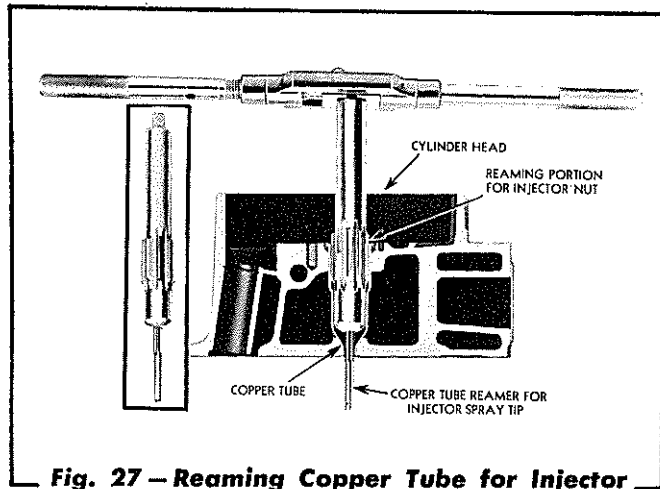
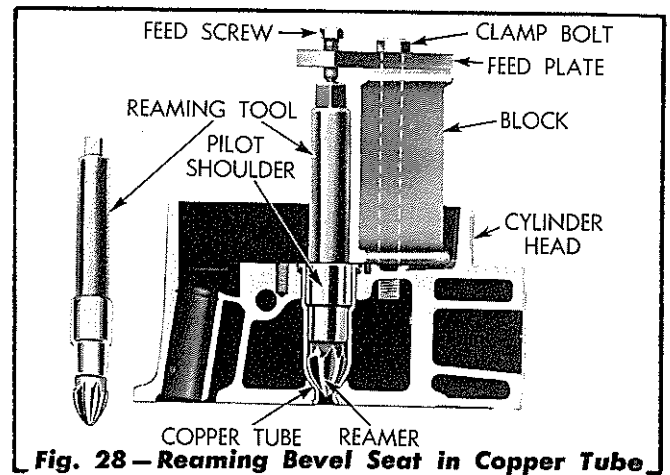

Fig. 27 – Reaming Copper Tube for Injector Body and Spray Tip
Fig. 28 – Reaming Bevel Seat in Copper Tube
5. The tube must now be reamed; first, to receive the injector body nut and the spray tip; and second, for good seating of the bevel on the lower end of the injector nut. Reaming the upper end of the tube to its proper size for the body nut and spray tip is accomplished by use of the reamer illustrated in Fig. 27. Reaming the bevel seat in the tube is accomplished as follows by use of the bevel seat reamer shown in Fig. 28.
feed clamp plate and block on the cylinder head as illustrated in Fig. 28. Position the feed screw of the tool directly over the center of the reamer.